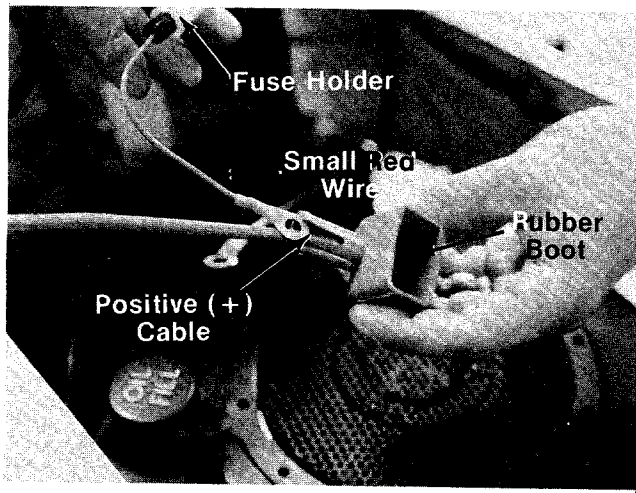

FIGURE 5.
- ← 1. Place end of small red wire (with fuse holder) into rubber boot with positive (+) cable. See figure 5.